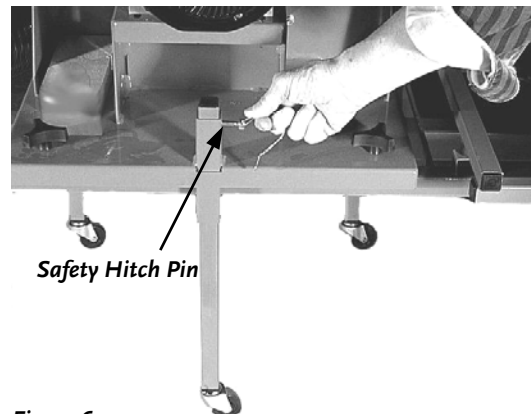

Figure 6
- **B&S Engine model:** Holding the Tongue level, remove the Safety Hitch Pin from the nearest Support Leg w/Caster in the front of the Trailer Frame and allow the leg to drop. Replace the Safety Hitch Pin in the hole provided to secure the Leg in the down position (**Figure 6**).
The remaining two (2) Legs are installed upside down for packaging. You need to remove them and reinstall them from the bottom, making sure that the holes in the legs are on the same sides as the holes in the Engine Plate tubes. Replace the Safety Hitch Pins in the holes provided to secure the Legs in the down position (**Figure 6**).